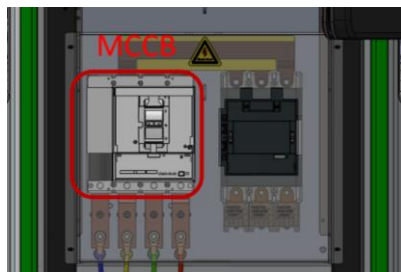

Fig. 5-7 MCCB
- a) Open the cabinet door, open the molded case circuit breaker (MCCB) as shown in Fig.5-7, power off the DC charging station.